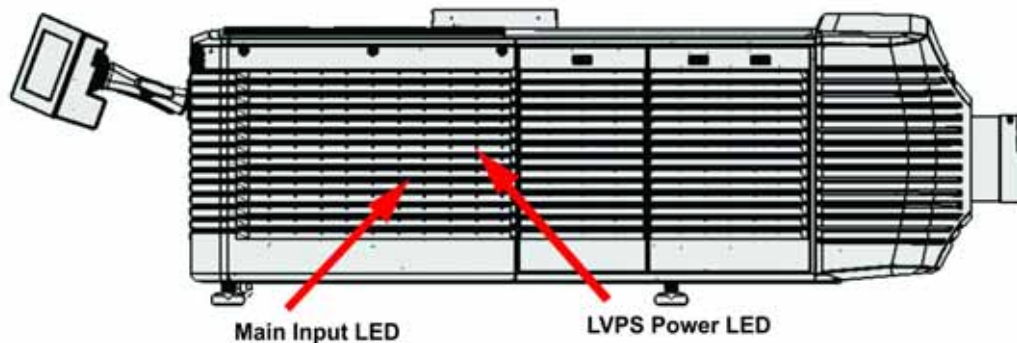

Figure 8-2 View Power Status LEDs
- Verify power by looking through the rear, right side grill. One LED should be present in the upper right. This indicates the LVPS has power. Another LED should be seen in the lower left indicating Main input. (Figure 8-2)